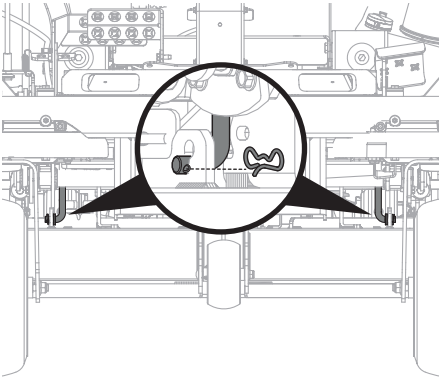

Figure 43
- Remove the two bow-tie pins from the deck rods that secure the front center lift link brackets on the frame to the front-center lift brackets on the deck and pull the front end of the rods out of place (Figure 43).